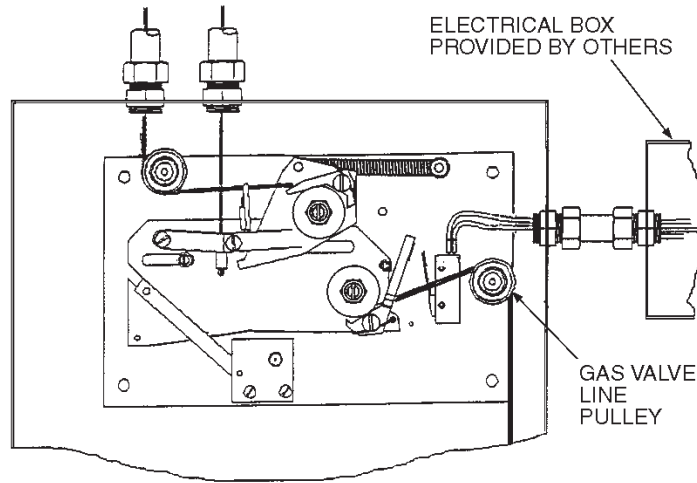
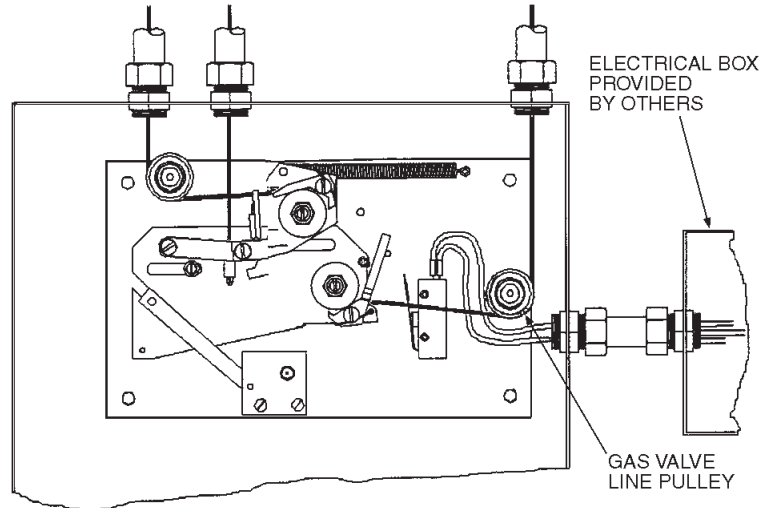

Figure 4-26. Gas Valve / Miniature Switch Installation.
Figure 4-27. Gas Valve / Miniature Switch Installation.
Remove the gas valve cover and thread the stainless steel cable through the conduit back to the Model EN-MCU3. If the cable enters the enclosure through the bottom knockout, the cable must be run over the gas valve line pulley (see **Figure 4-26**). If the cable enters the enclosure through the top knockout, the cable must be run under the gas valve line pulley (see **Figure 4-27**). Thread the cable through the hole in the gas valve ratchet wheel. The line must then be crimped, and the crimp positioned inside the center of the ratchet wheel.
- ▶ fully open. Secure the gas valve cover plate to the gas valve box with the four (4) screws provided. The gas valve line is now in a set position. See **Figure 4-26** and/or **Figure 4-27**.
- The Model MS-SPDT, MS-DPDT, MS-3PDT, or MS-4PDT-EN Miniature Switch is available for use where an electrical output is required. These switches can be field installed in the Model EN-MCU3. See **Figure 4-26** and/or **Figure 4-27**.
Three (3) knockouts are provided for Miniature Switch wiring. The upper right-side knockout must be used when the gas valve line exits the bottom of the enclosure (see **Figure 4-26**). The lower right-side knockout must be used when the gas valve line exits the top of the enclosure (see **Figure 4-27**). An additional knockout located on the top of the enclosure is also provided (see **Figure 4-24**) and may be used in either situation.